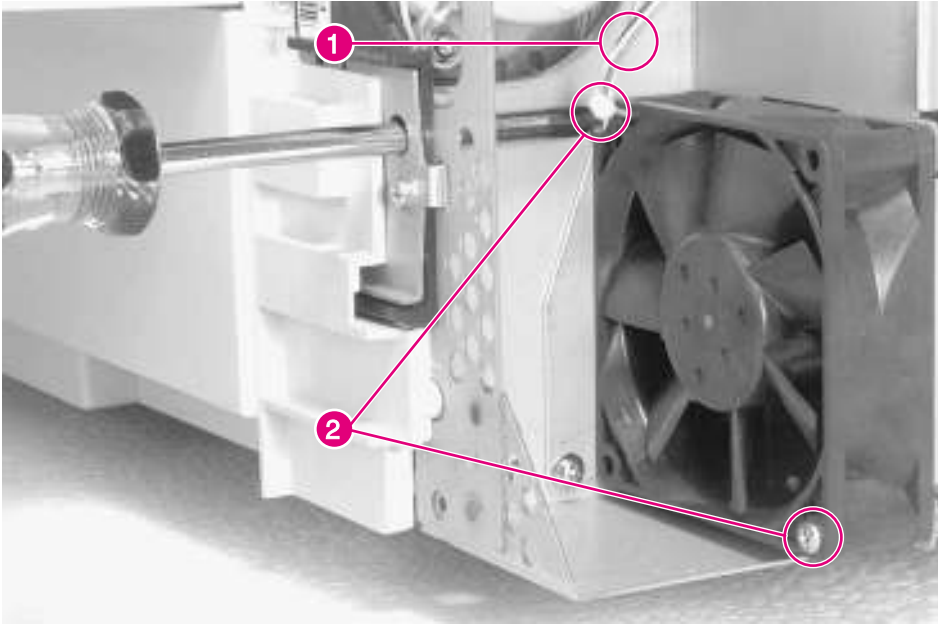

Figure 6-21 Fan 2, Low Voltage Power Supply
- 2 Remove the fan cable from the DC Controller PCA (figure 6-21, callout 1).
- 3 Remove 2 screws (figure 6-21, callout 2).